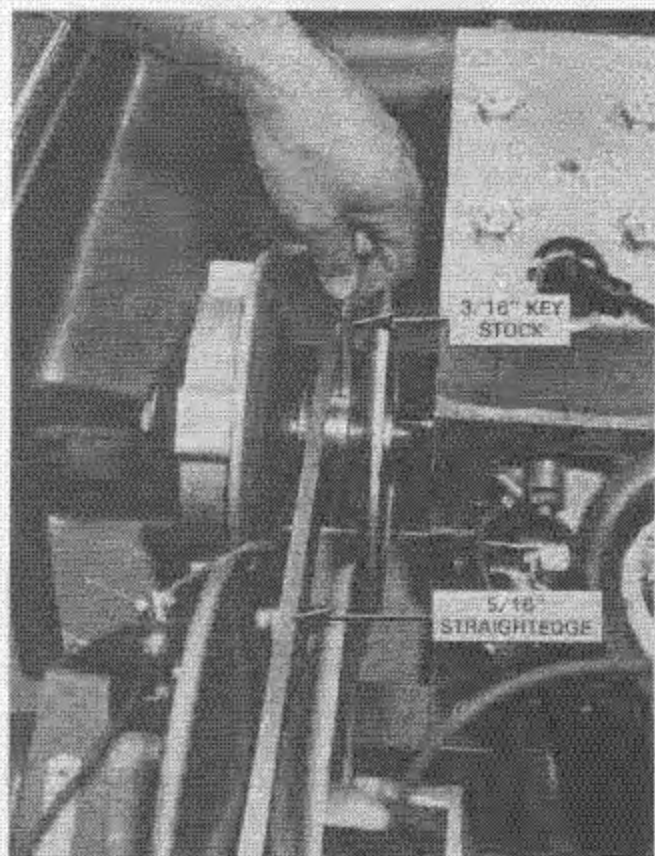

Fig. 54 — Checking Alignment of Pulleys on
4. Check belt pulley alignment as follows, see Fig. 54: